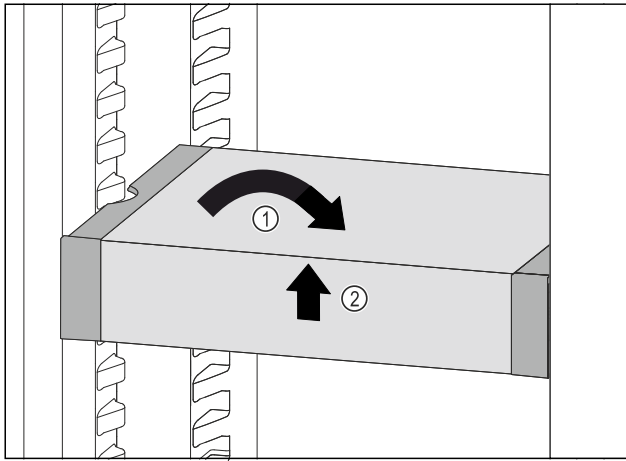

Fig. 126
- Set VarioSafe straight. Fig. 126 (1)
- Lift VarioSafe at the front. Fig. 126 (2)